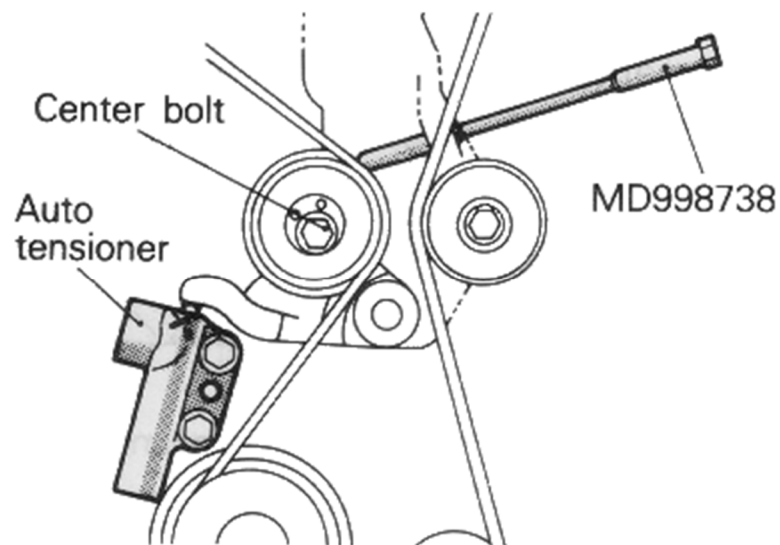

Figure 4
13. Loosen the tensioner pulley center bolt (Figure 4).
18. Rotate the camshaft timing belt tensioner pulley so that the pinholes are to the left of the center bolt. Tighten the center bolt finger-tight (Figure 4).